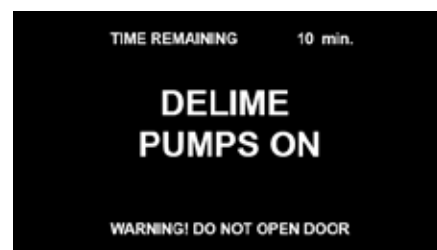

Fig. 56 - DELIME PUMPS ON
12. Close the doors after adding chemicals "DELIME PUMPS ON" appears and the pumps run, Fig. 56.